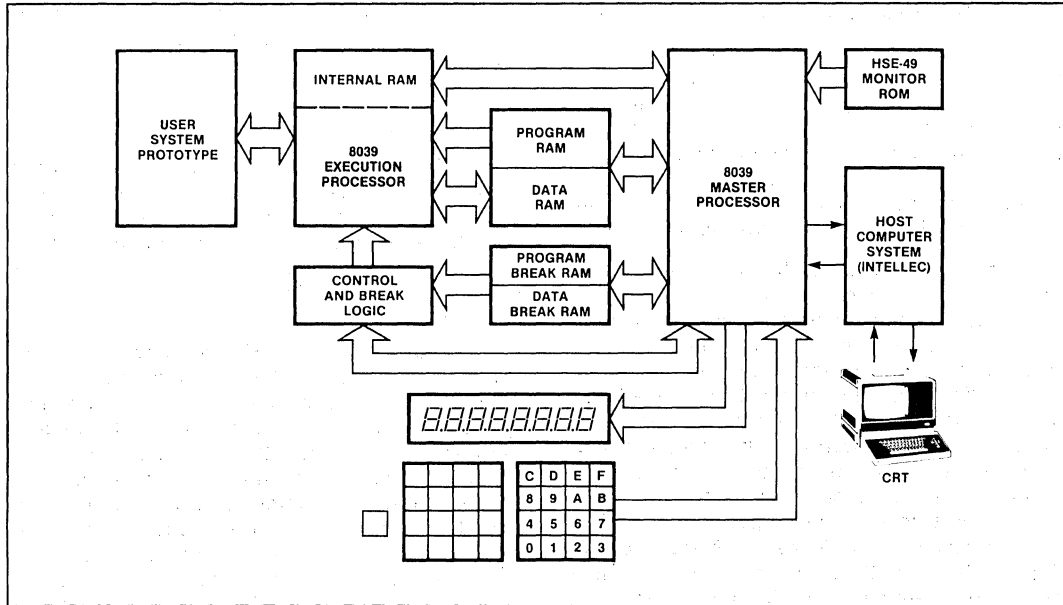
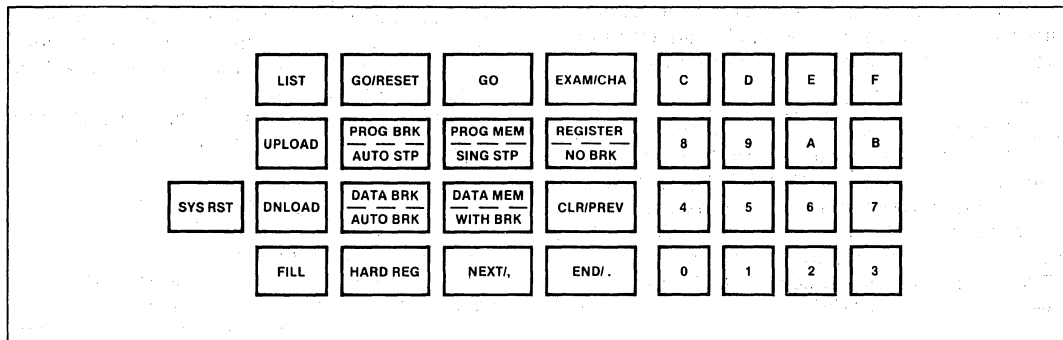

Figure 2. HSE-49 Emulator Signal Flow Diagram
Figure 3. HSE-49 Emulator Command Keypad Organization
ment commands, drive serial interfaces, etc. In general, this master processor (MP) is used to interface the emulation processor's memory spaces with the outside world and control the operation of the EP. Figure 2 shows how the two processors interrelate with the rest of the system. Figure 3 shows the layout of the 33-key keypad through which the user interfaces to the emulator.